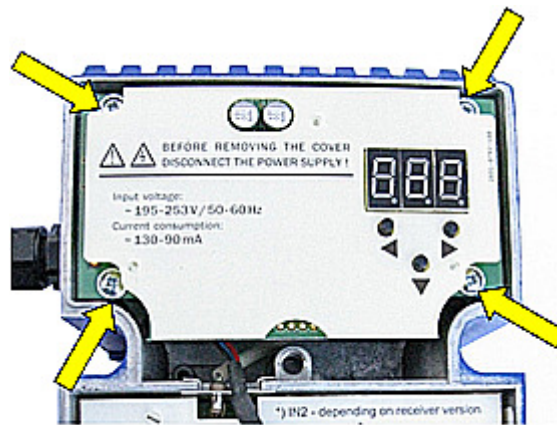

Fig. 8.8. Replacing the M-729 remote monitoring module - step 6.
- attach the monitoring module with four screws in the locations presented on fig. 8.8.
- Fig. 8.8. Replacing the M-729 remote monitoring module - step 6.